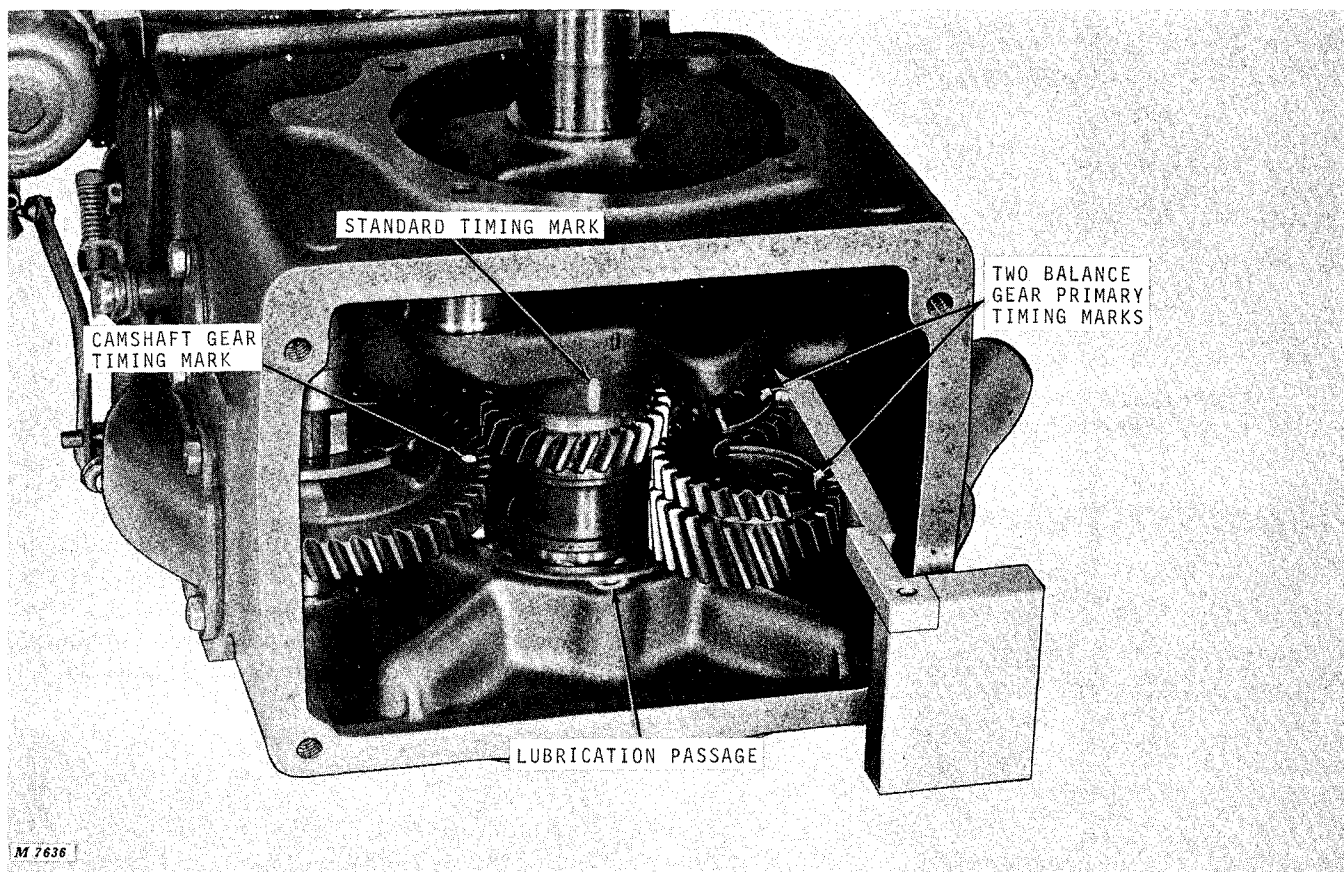

Fig. 35-Timing Balance Gears with Special Tool
**NOTE:** The special balance gear timing tool, Figure 35, makes precision installation of the crankshaft more accurate. See "Special Tools," page 15-22.
Install crankshaft so that counterweights are toward balance gear side of engine, Figure 35. Turn crankshaft so that standard timing mark on crankshaft is in line with lubrication passage in engine block, Figure 35.